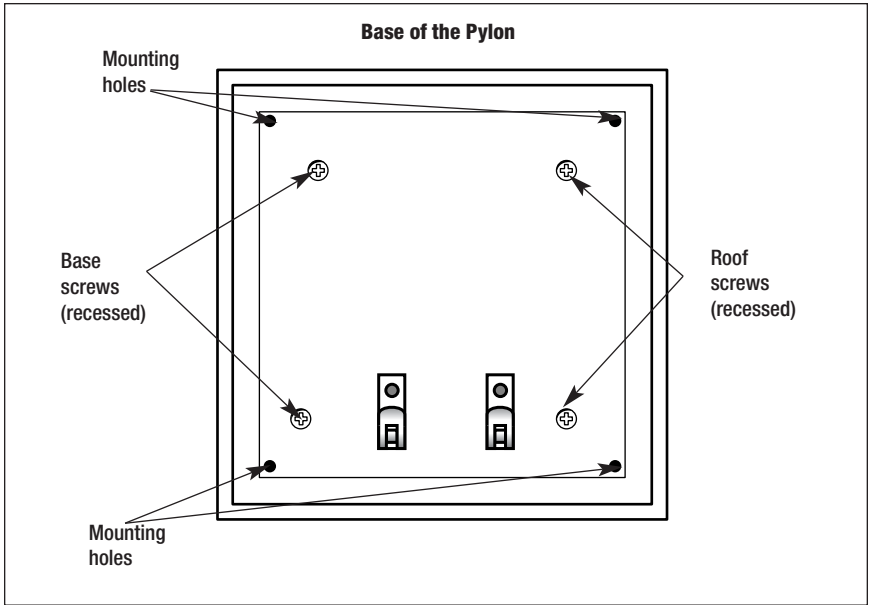

Figure 5. Screw locations
2. Remove the four base screws from the underside of the base with a small Phillips-head screwdriver and lift away the roof and pylon tower. Refer to Figure 5 on page 10 for the location of the screws.